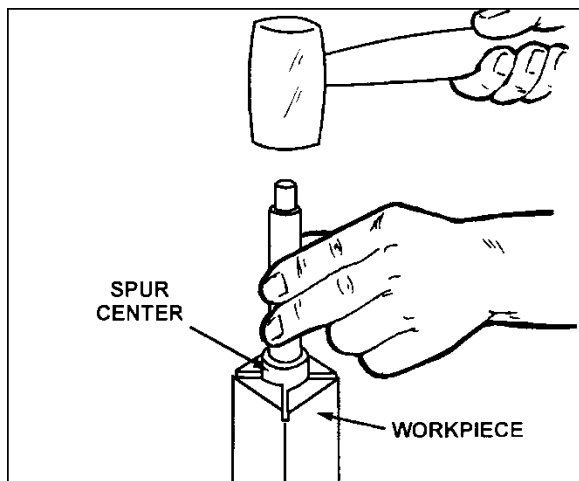

Figure 21
- Drive the spur center about 1/4" into the workpiece, using a wood mallet or dead blow hammer as shown in Figure 21. Be careful that you do not split the workpiece. **Never use a steel face hammer and never drive the workpiece onto the spur center while it is mounted in the lathe spindle.**